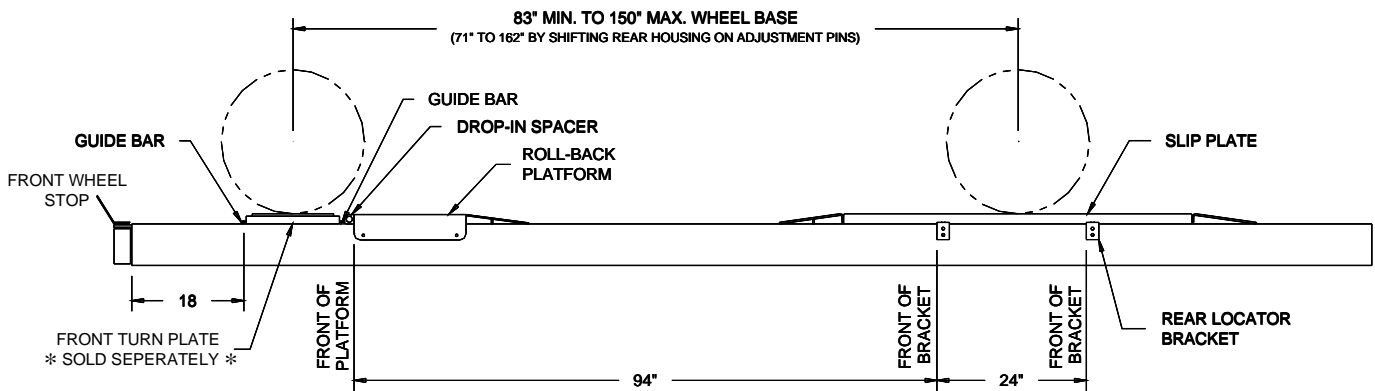

Fig 1 – General Specifications and Layout
- Raise the lift to a comfortable work height and lay out the Bolt-On Alignment Kit components on the lift runways, see Fig 1. (Note: all left and right components are identical except the Front Roll-Back Platforms)
**IMPORTANT:** Locations illustrated in Fig 1 are only suggested and may be repositioned to better suit specific needs. If Front Turn Plates are positioned less than 18" from the front cross beam, ensure the alignment equipment will clear the front wheel stop.
- 3) Attach Guide Bar to runway using (3) #10-24NC Socket Head Cap Screws and lock nuts provided. Use square to check position.
- 6) Position the Drop-In Spacer and the Roll-Back Platform, **Fig 1**. Using the holes in the side of the Roll-Back Platform as a template, drill (2) 13/32" holes for both runways. Mount platforms using 3/8" flange bolts and nuts provided.
- 7) Locate the front edge of the Rear Locator 94" back from the front edge of the Roll-Back Platform, see **Fig 1**. Using the holes in the Rear Locator, drill (2) 13/32" holes through the side of the runway. Bolt the rear locator using the 3/8" flange bolts and nuts provided.